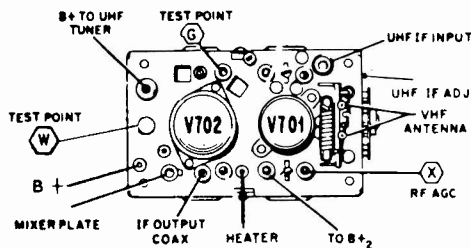
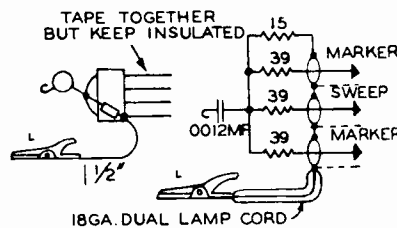

Fig. 2 TOP DRAWING OF VHF TUNER
Fig. 4 MIXER GRID MATCHING PAD
To align UHF IF input coil, tune in UHF channel with normal picture and sound. Using non-metallic alignment tool very carefully adjust slug L106A for best picture, consistent with good sound. For UHF tuner adjustment locations, see Fig. 2.
Using needle nose alligator clip or looped end of hookup wire, connect matching network shown in figure 2 to test point "G", low side directly to tuner, see figure 4. Connect signal generator to matching pad.
3. Connect sweep generator to VHF tuner to test point "G" through the generator matching network of figure 4. Ground low side nearby.
VHF tuners used in these receivers feature high stability and trouble-free operation. In general, RF and mixer alignment is permanent. However, individual channel oscillator screws or slugs are provided should oscillator adjustment be required after replacement of VHF oscillator tube. For tuner adjustment locations, see figure 2. If it is definitely determined that complete tuner alignment is required, return tuner to your Admiral Distributor for repair or replacement.